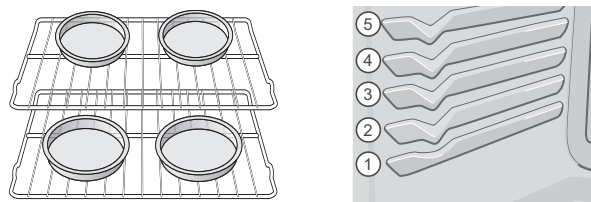

Figure 10: Pan spacing and rack positions
- For best results when baking cakes or cookies using 2 oven racks, place cookware as shown in Figure 10 and place racks in rack positions 3 & 5. For cookies on two racks use positions 1 and 5 (flat racks). Allow at least 2 inches (5cm) of space between bakeware for proper air circulation.